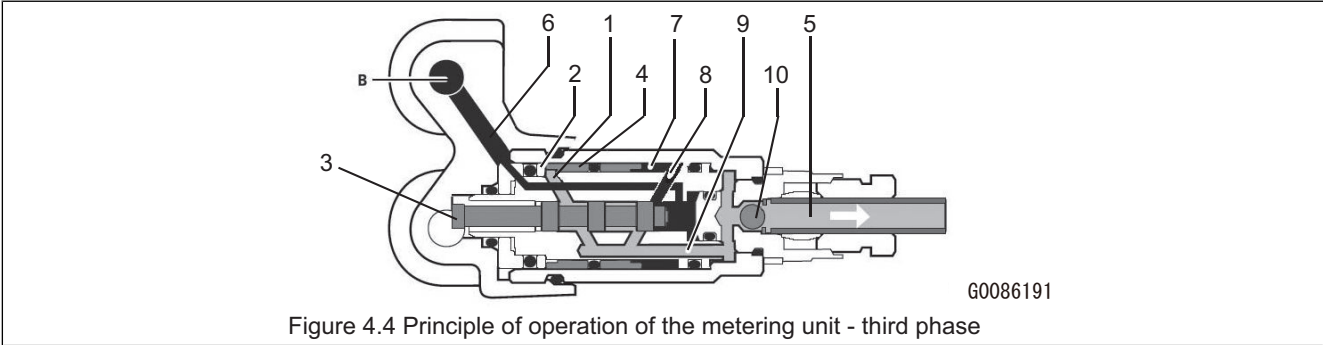
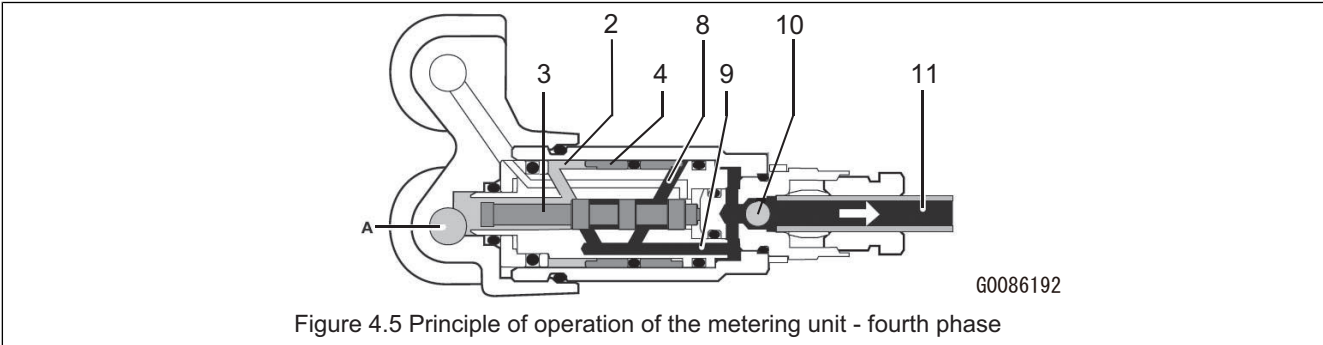

Figure 4.4 Principle of operation of the metering unit - third phase
Figure 4.5 Principle of operation of the metering unit - fourth phase
In this phase the same happens as in phase 2. However chamber (7) (see figure 4.4) is now filled with grease. Plunger (4) is pushed to the right (see figure 4.5) while chamber (2) is filled. The complete grease volume of chamber (7) is pressed through channel (8), plunger (3) and channel (9) and the secondary grease line (5) to the greasing point. Sphere (10) in the non-return valve is pushed back to clear the path to the secondary grease line.